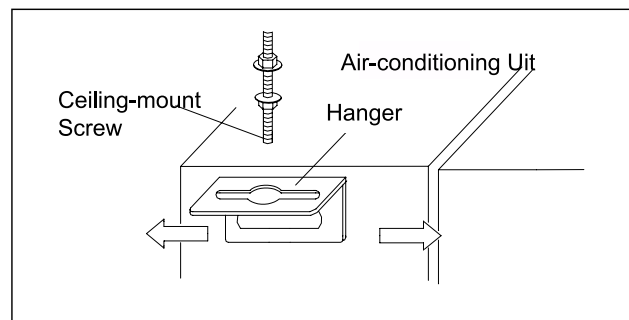
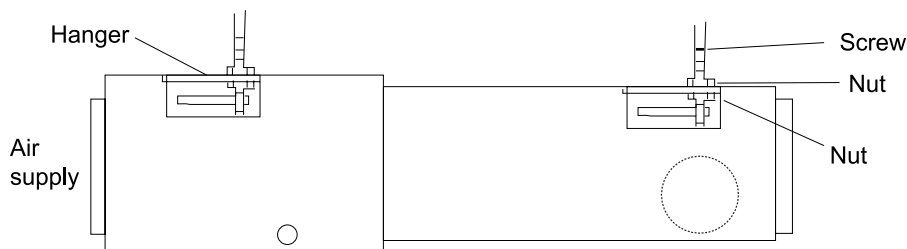

Figure 1-1-2
Figure 1-1-3
- d. Install the hanger onto the indoor unit as Figure 1-1-2 and Figure 1-1-3 shows.